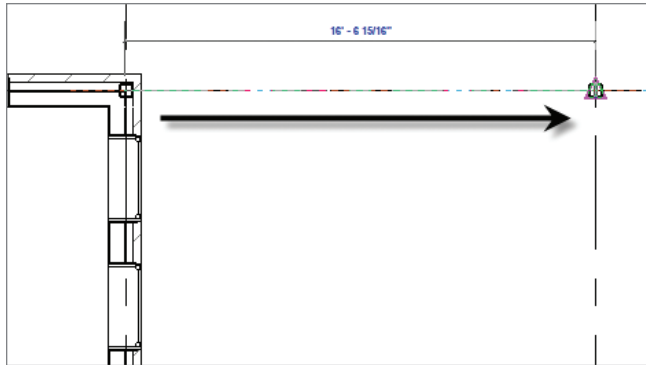

FIGURE 8.35 Adding the beam requires picking two columns.
7. Pick the second point at the exterior column, as shown in Figure 8.35.